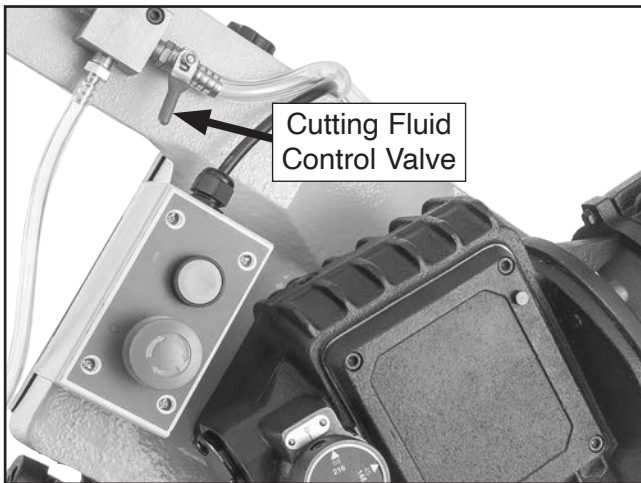

Figure 26. Location of cutting fluid control valve.
- Open cutting fluid control valve (see **Figure 26**).